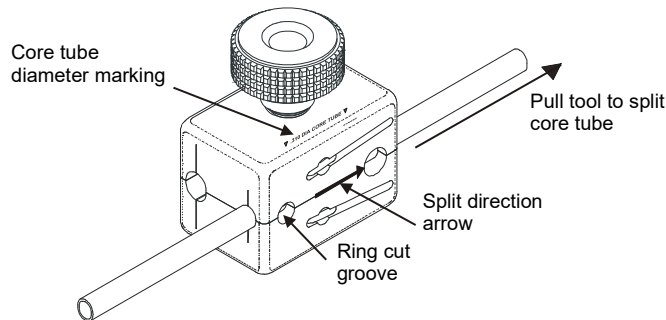

Figure 2. Core Tube Splitting
- 4.5 The groove diameters are labeled on the top of the tool (Figure 2). Position the tool so that the proper groove is facing you. The “pull tool to split tube” direction-arrow on the side of the tool must be pointing to the right.